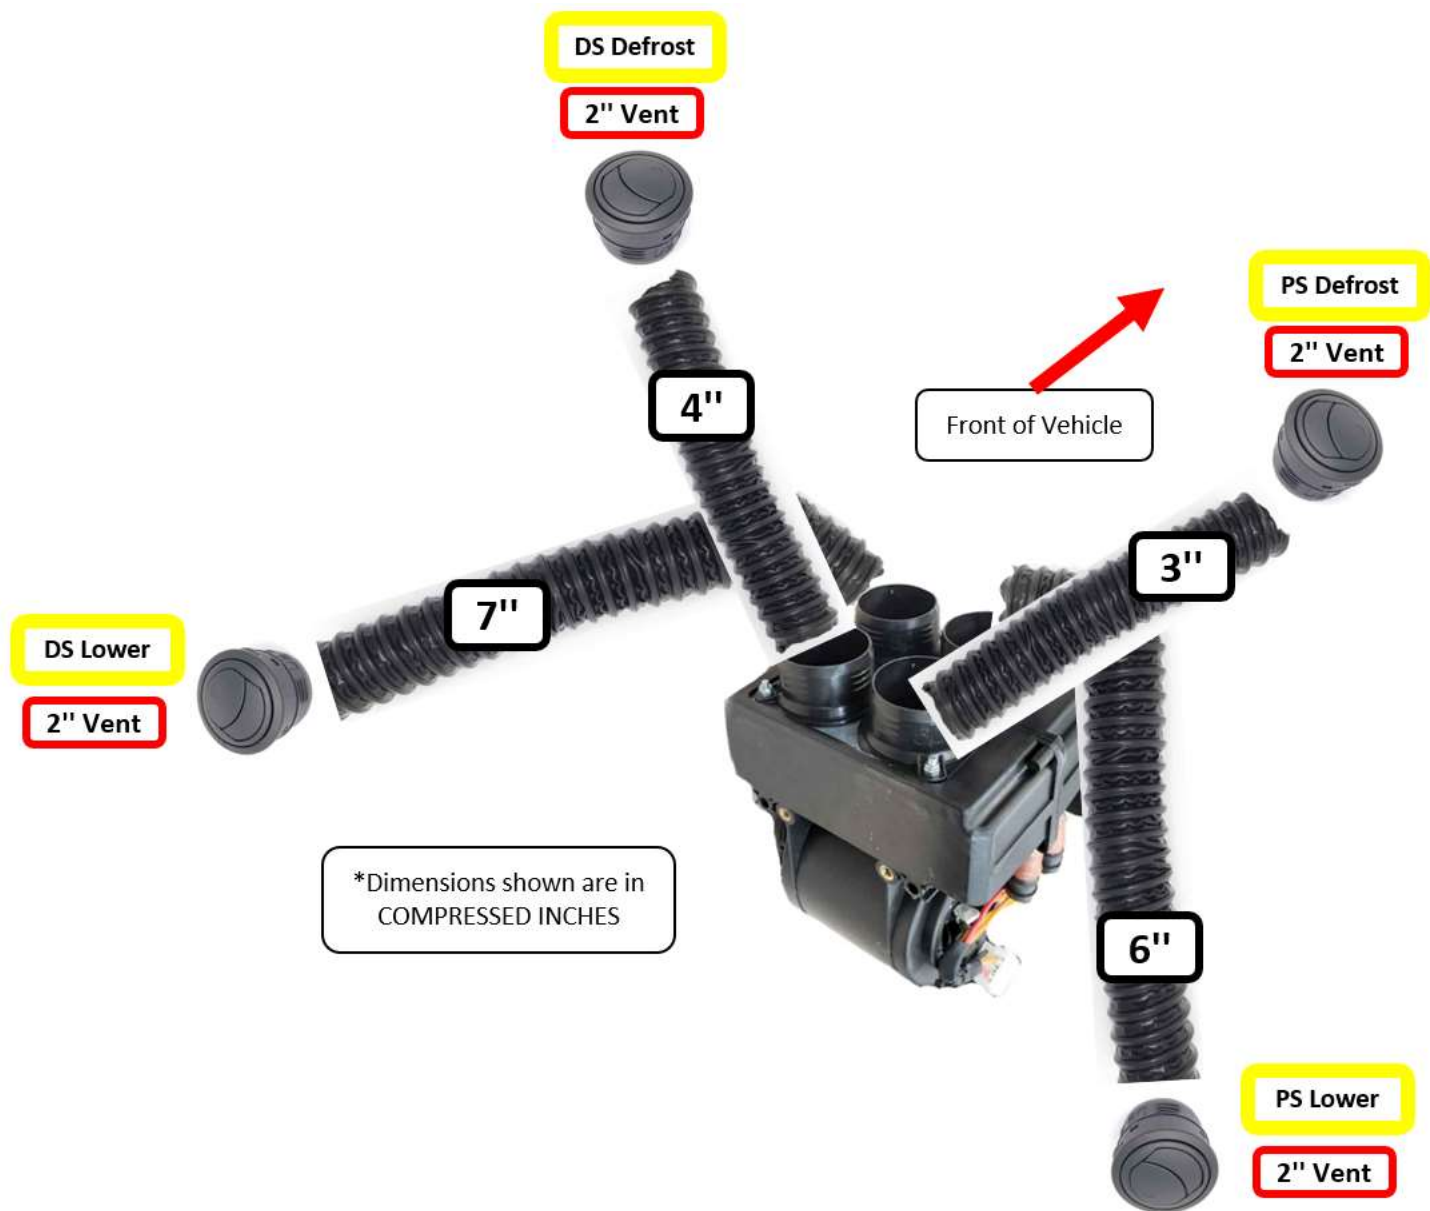
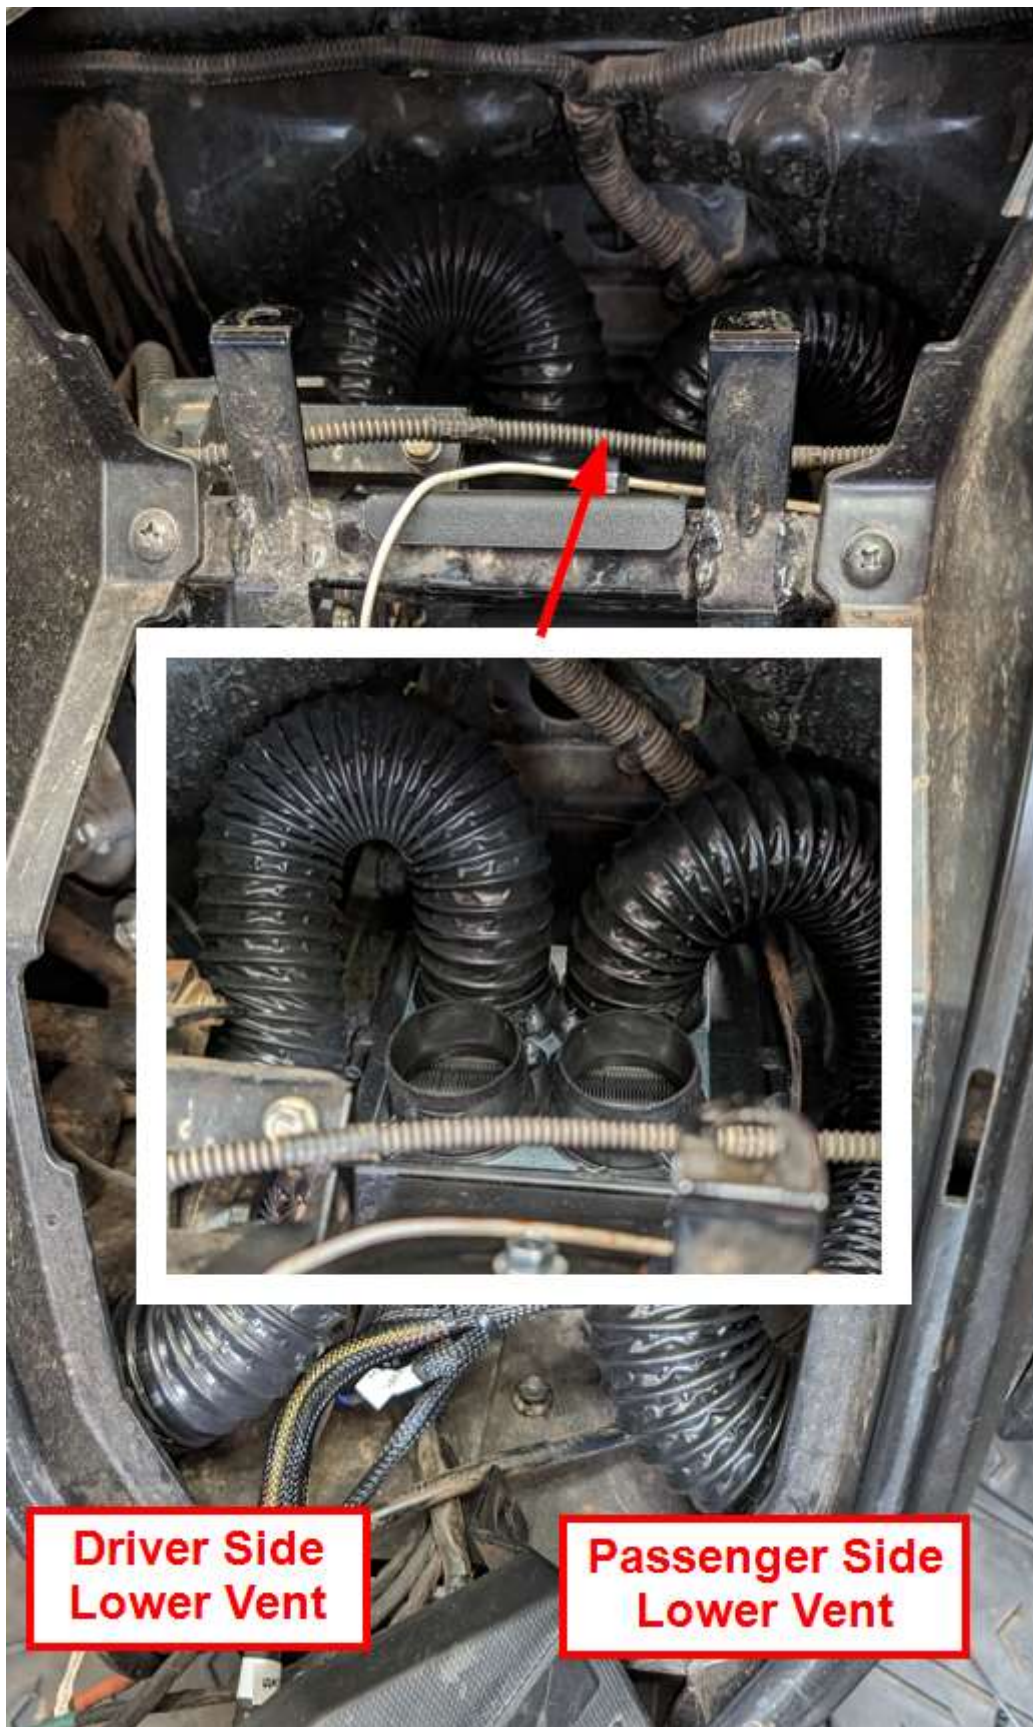
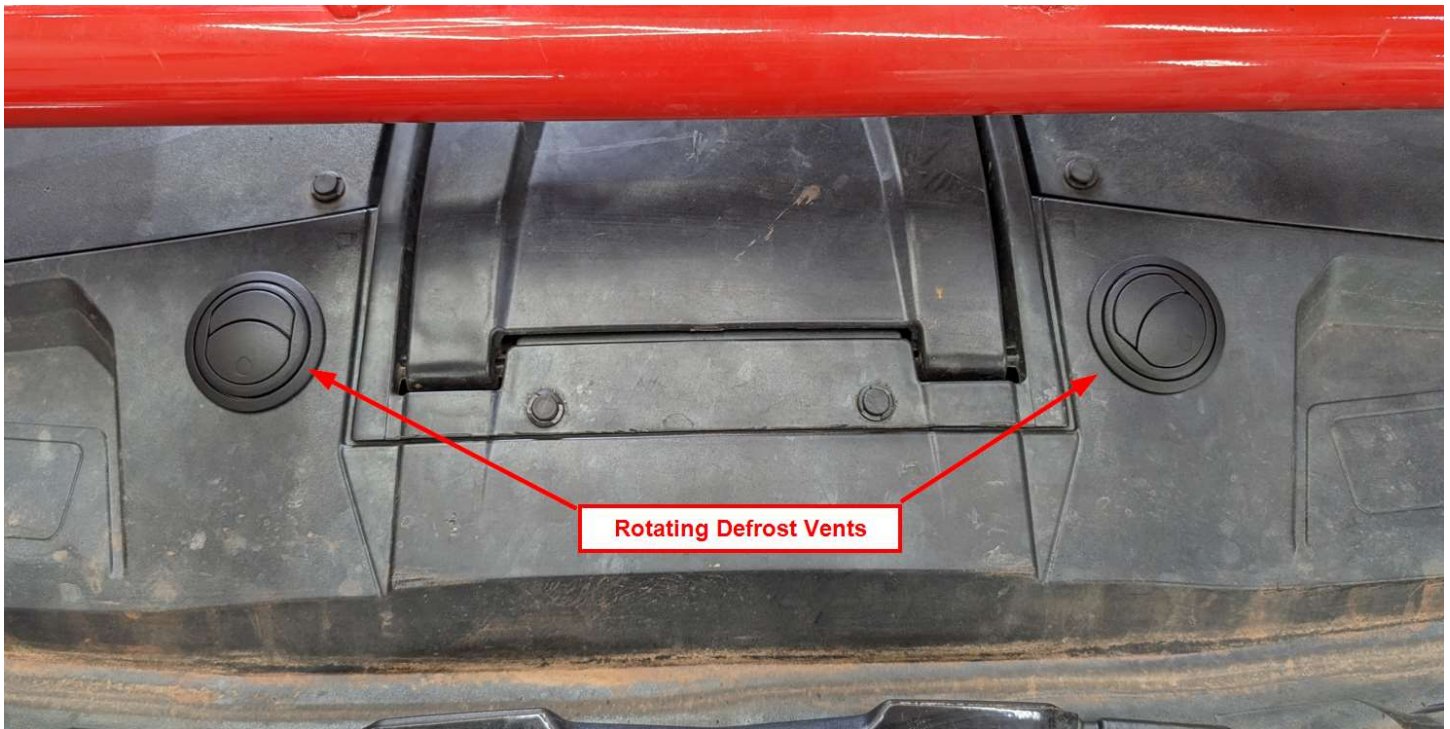
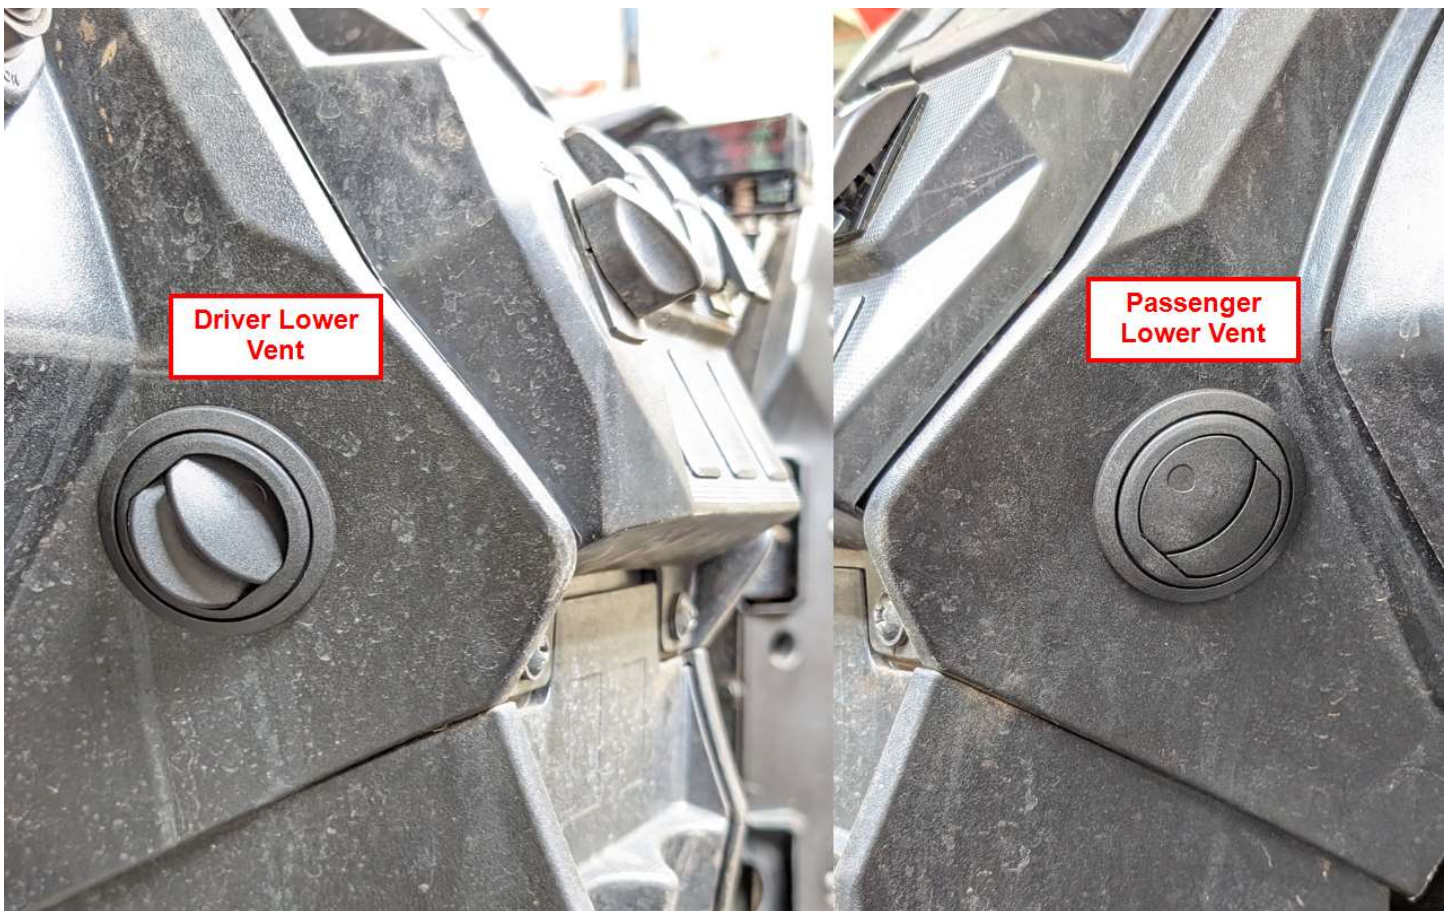

Figure 17
Figure 18
Figure 20
Figure 21
- a. Refer to Figure 17, Figure 18, Figure 19, Figure 20, Figure 21 to cut duct hoses into the lengths shown. Route them as shown to their respective holes, and make all connections using zip ties to secure the hoses. **Note: All measurements are taken with the hose in a compressed state.**